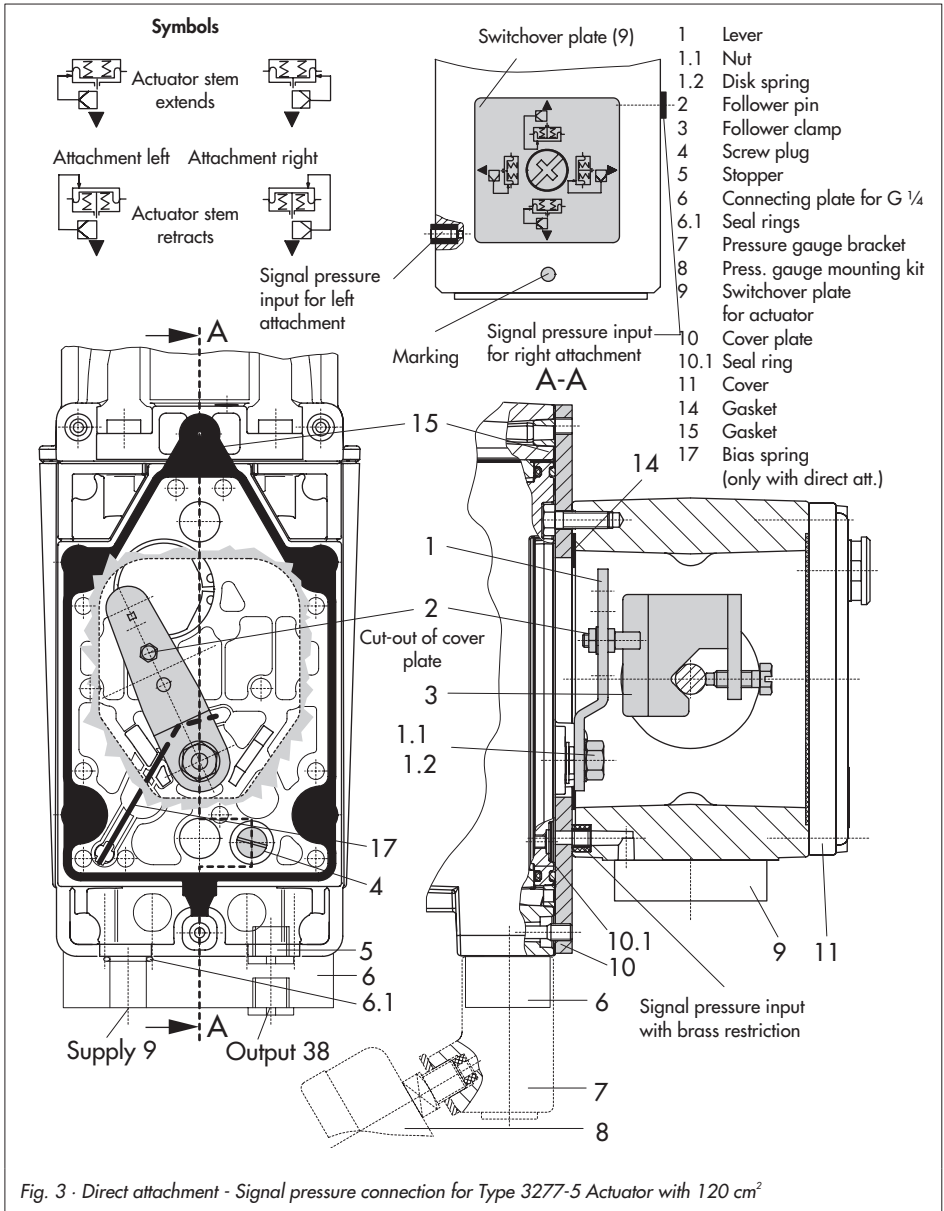

Fig. 3 · Direct attachment - Signal pressure connection for Type 3277-5 Actuator with 120 cm2
1. If applicable, mount pressure gauge bracket (7) with pressure gauges or, in case G 1/4 threaded connections are required, the connecting plate (6), making sure both seal rings (6.1) are seated properly.
2. Remove screw plug (4) on the back of the positioner and seal the signal pressure output "Output 38" (or on the pressure gauge bracket (7) or on the connecting plate (6)) with the stopper (5) included in the accessories.
3. Place follower clamp (3) on the actuator stem, align and screw tight so that the mounting screw is located in the groove of the actuator stem.
5. Mount cover plate (10) with narrow side of the cut-out opening (Fig. 3, on the left) pointing towards the signal pressure connection. Make sure that the bonded gasket (14) points towards the actuator yoke.
6. **15 mm travel:** Keep the follower pin (2) at lever **M** (1) on the back of the positioner in the pin position **35** (delivered state).
**7.5 mm travel:** Remove the follower pin (2) from the pin position **35**, reposition it in the bore for pin position **25** and screw tight.